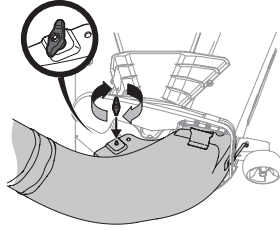

Figure 31
- Secure the discharge chute elbow to the cutting deck using wing knob (720-04122) included with the hardware pack 689-02200. Refer to Figure 31.
- Secure the discharge chute elbow to the cutting deck using wing knob (720-04122) included in hardware pack 689-02200. Refer back to Figure 31.